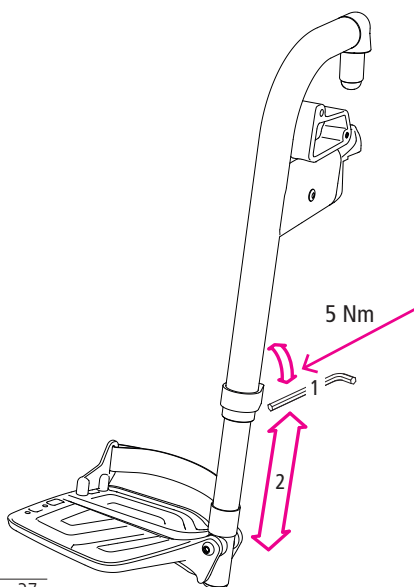

Fig. 37
1. Loosen the allen screw on the back (1, Fig. 37) by one or two turns. The foot plate tube is now free and be slid upwards or downwards.
2. When you have found the correct height (2, Fig. 37) tighten the screw up (5 Nm) (1, Fig. 37).